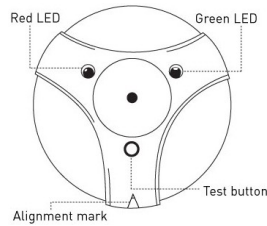

Figure 1
1. Push the test button for 2 seconds and then release it. You will now be in audio test mode for the next 90 seconds (see *Figure 1*).
2. Activate a glass break simulator in the area of the window or windows that you are attempting to protect with the glass break detector. The Glass Break Detector should first acknowledge the detection of a thud sound by illuminating the green LED and then illuminate the red LED when the unit detects the crash portion of the glass breaking sound (see *Figure 1*).
Push and hold the test button for 5 seconds and then release it. The Glass Break Detector will continue to send RF transmissions for 90 seconds (see *Figure 1*).